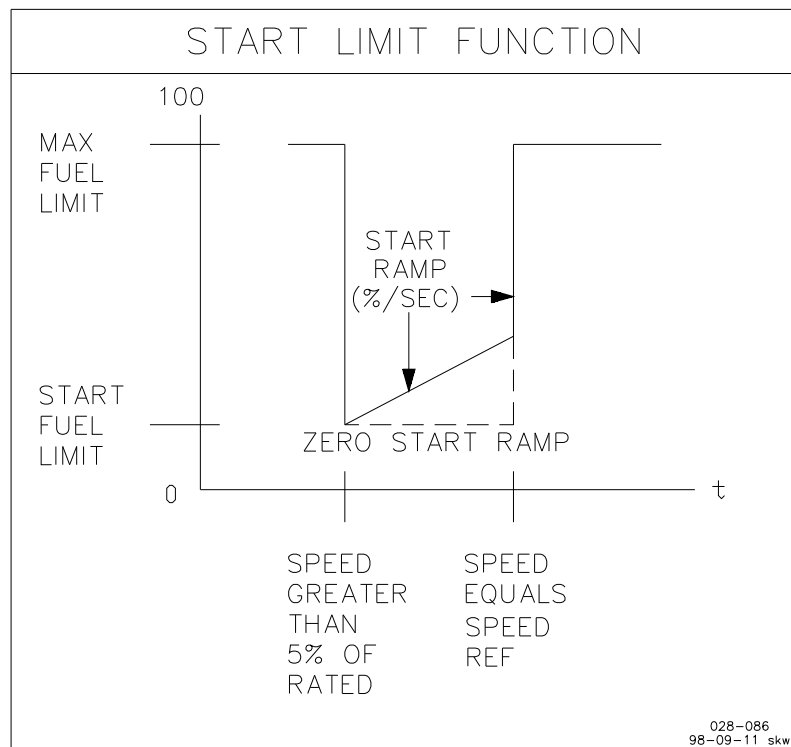

Figure 3-7. Start Limit Function
1. **START FUEL LIMIT** limits the percent fuel demand when the engine is started. The limit is usually set at the fuel level required to start the engine. The limiter is disabled when the engine speed exceeds 95% of speed reference (see Figure 3-7).